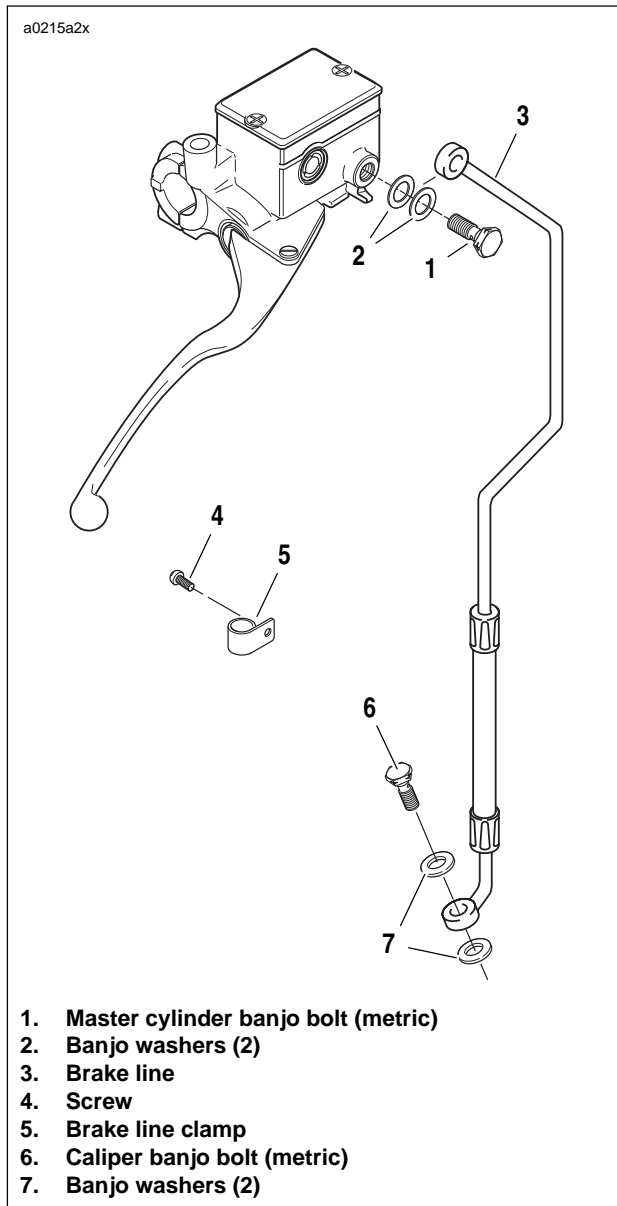

Figure 2-44. Front Brake Line
2. See Figure 2-44. Remove screw (4) to detach brake line clamp (5) from right side of lower triple clamp. Remove brake line from wireform.
1. See Figure 2-44. Connect brake line to master cylinder using two **new** banjo washers (2) and banjo bolt (1) (metric). Loosely install bolt into master cylinder.
2. From the master cylinder, the brake line runs downward in front of the right handlebar, where it turns inboard at the upper triple clamp. Loosely install clamp (5) with screw (4) to attach front brake line to right side of lower triple clamp. Position brake line in wireform.
3. Connect brake line to caliper using two **new** banjo washers (7) and banjo bolt (6) (metric). Tighten banjo bolt (6) to 16-20 ft-lbs (22-27 Nm).
4. Tighten clamp screw (4) on lower triple clamp to 36-60 **in-lbs** (4-7 Nm).
5. Tighten master cylinder banjo bolt (1) (metric) to 16-20 ft-lbs (22-27 Nm).